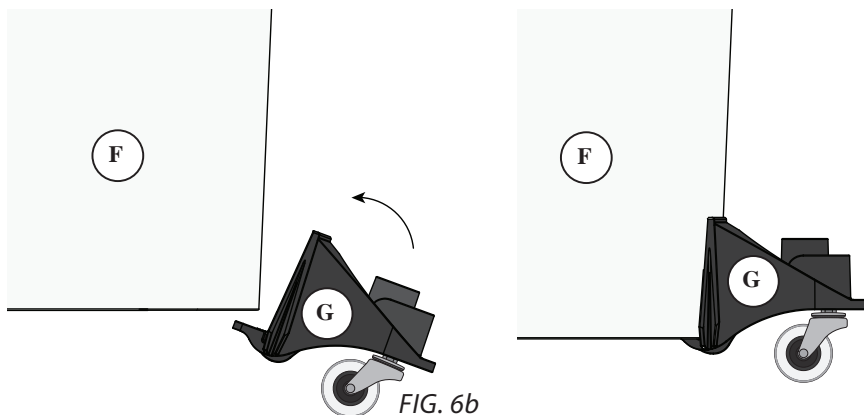

FIG. 6b
Remove the backing paper from the Double Sided Tape (H) on the Caster assembly. Rest the lip of the Caster assembly against the bottom of the Bucket and then rotate the Caster assemblies flush against the side of the Bucket. Press firmly for a secure fit [FIG. 6b].